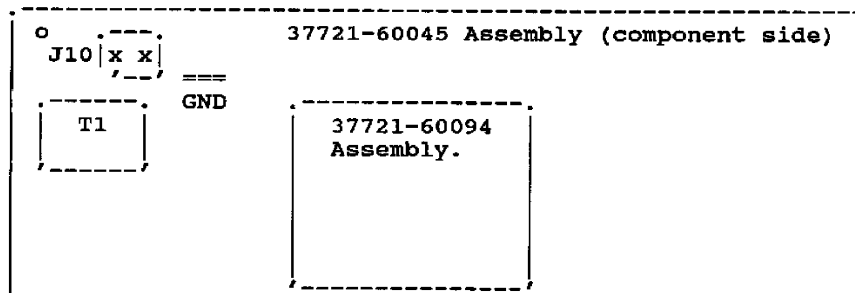

Figure 1
2. Unsolder the 120 ohm Balanced Input transformer (A4T1) and remove from the A4 Assembly. See figure 1 for location of this transformer.
5. On the underside of the A4 Assembly, solder a 31.6 ohm resistor (part number 0757-0180) between T1 pin 4 and TP GND (see figure 1). Fit sleeved insulation onto the resistor wires and keep these as short as possible.